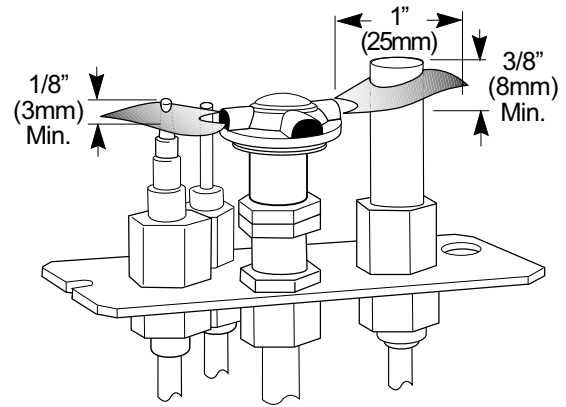

Figure 38. Proper pilot flame appearance.
The pilot flame should engulf the top 3/8" of the thermopile (to generate millivolt current) and the top 1/8" of the thermocouple. The pilot flame should project out of all three pilot hood ports 1" and project over to the burner plate carry-over ports. See fig. 38 and 38a.
- **Inspect the pilot head, thermopile and thermocouple for signs of rust or deterioration and replace any components that do.** Check that the pilot head is properly engaged with the throat and is oriented correctly. See fig. 38, page 22.